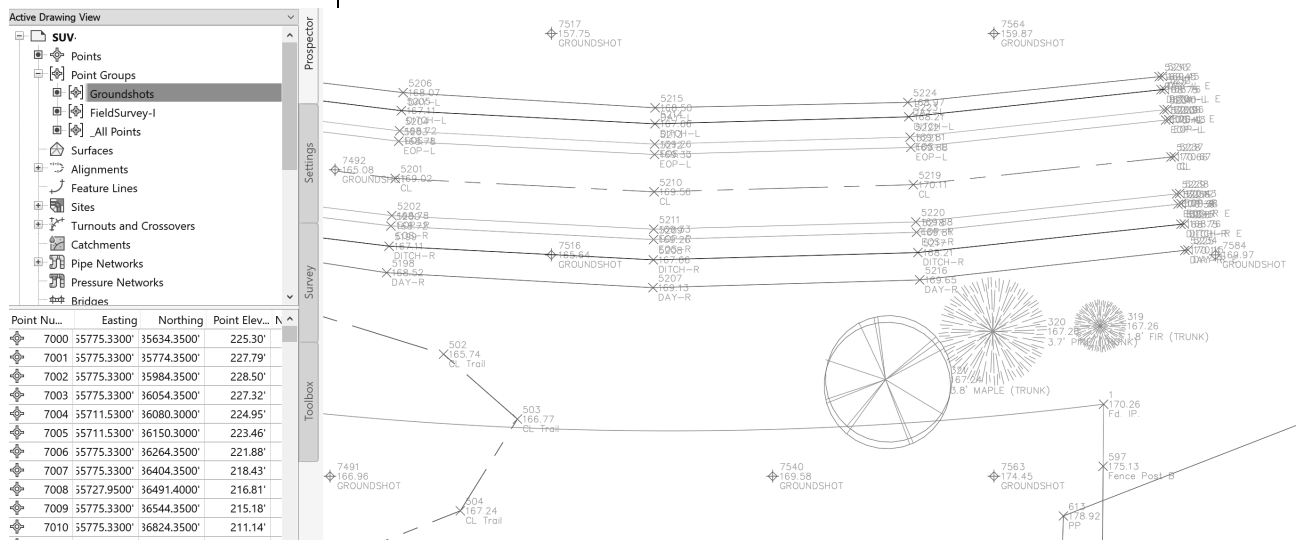

Figure 2-41
- Expand the *Point Groups* branch in the Toolspace, *Prospector* tab and click on the **Groundshots** point group. Note all the points listed in the preview area of the *Prospector* tab, as shown in Figure 2-41. Note the symbol of the points – they are COGO points.